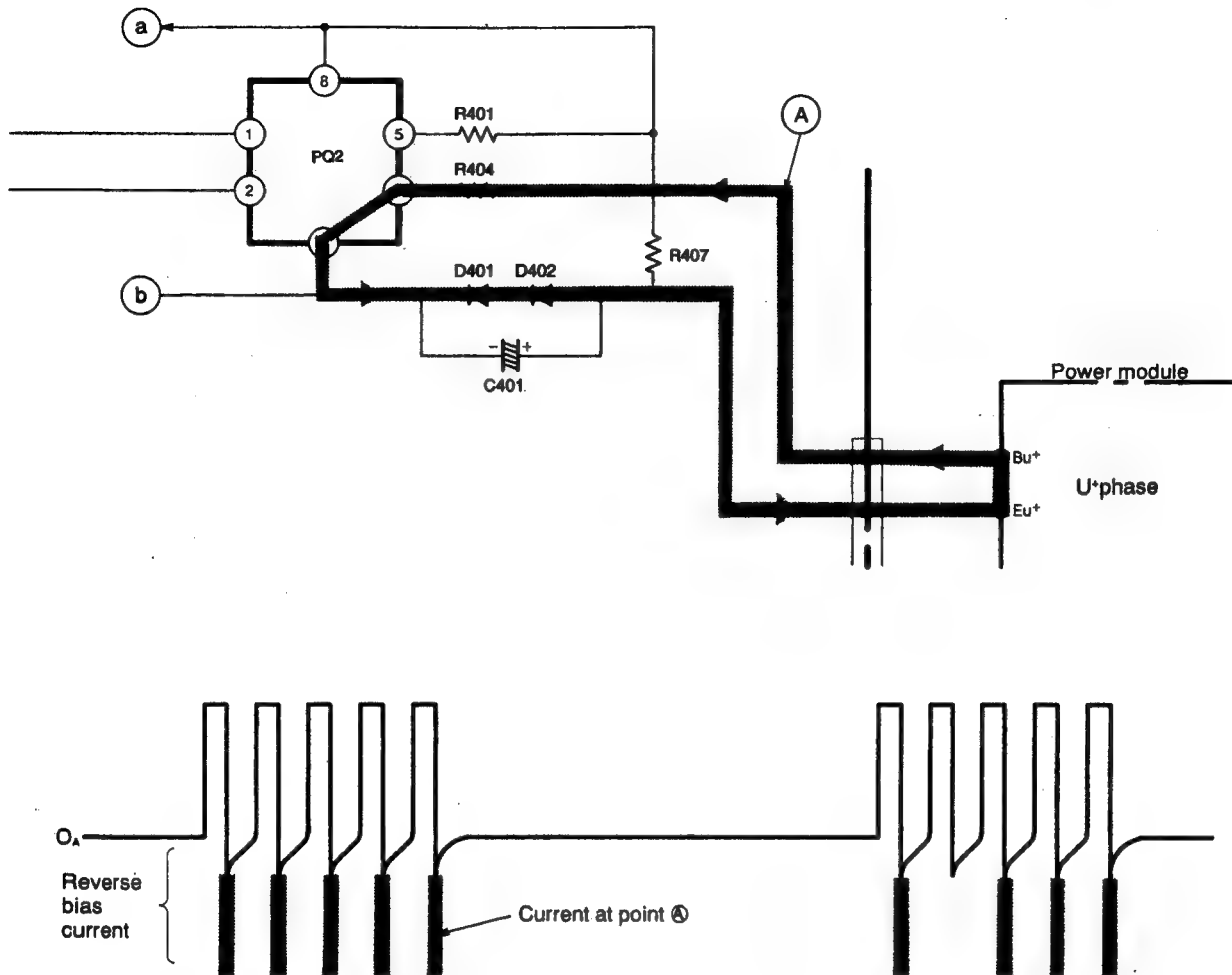

Fig. 7-3 Waveform of Transistor Base Current (Reverse Current at Point ⑤)
- When pin ③ of the micro computer then goes "Lo" → "HI" a photocoupler between PQ2 pins ① and ② turns off and the reverse bias current flows to C401 → power module's Eu+ terminals → Bu+ terminals → R404 → PQ2 to cut off the upper arm transistors. (Fig. 7-3)